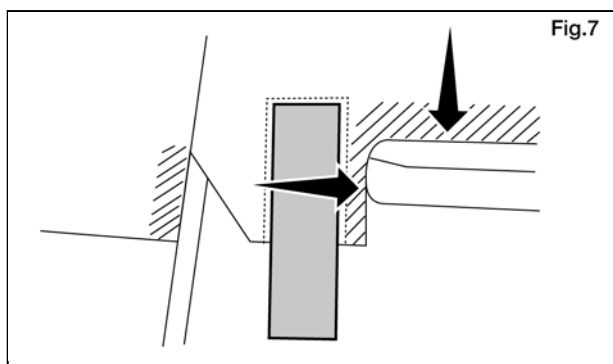

Fig.7
- c) Align the top and rear edges of the body side molding to the edges of the template and hold in position. (Fig. 7)